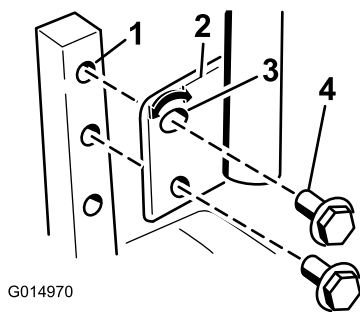

Figure 22
1. Remove the 2 bolts holding the control lever to the control arm shaft (Figure 22).
2. Move the control lever to the next set of holes. Secure the lever with the 2 bolts (Figure 22).
2. Loosen the lower bolt just enough to pivot the control lever fore or aft (Figure 22). Tighten both bolts to secure the control in the new position.